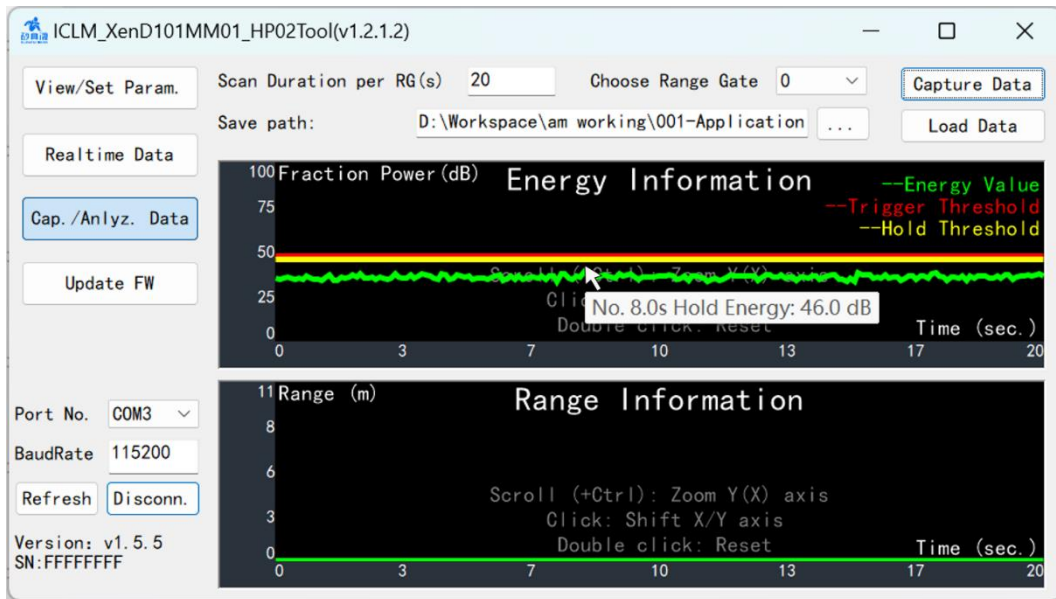

Figure 4-7 Analyze the loaded data
- Step 4: If users want to check the exact value of a point in the curves, point the cursor at the point on the line, and a floating rectangle window will appear with the exact coordinate values of that point, as shown in Figure 4-7.